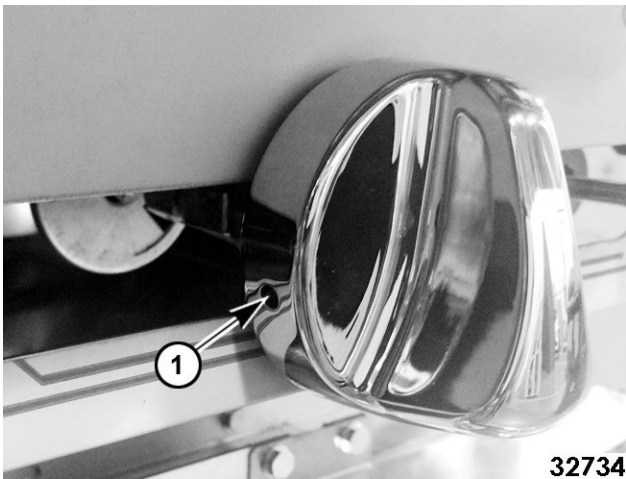

Fig. 5
- Loosen setscrews (1, Fig. 5) in burner control knobs and remove knobs.